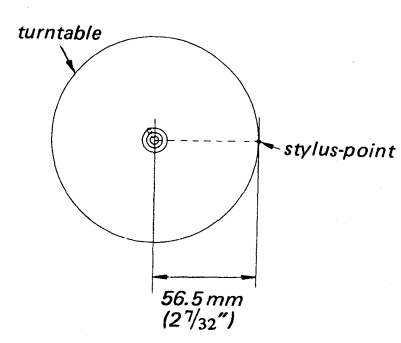

Fig. 3-5
- 4. Set the position of the stylus as shown in Fig. 3-5 and turn the adjustment screw so that the VOM reads 4.4 V dc.